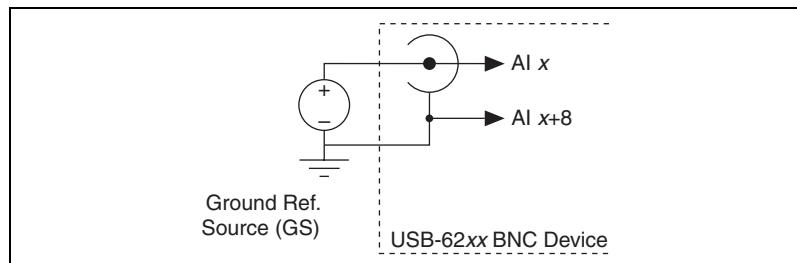

Figure A-33. Single-Ended Channels
- **Single-Ended Mode**—For each BNC connector that you use for two single-ended channels, set the source type switch to the GS position. This setting disconnects the built-in ground reference resistor from the negative terminal of the BNC connector, allowing the connector to be used as a single-ended channel, as shown in Figure A-33.